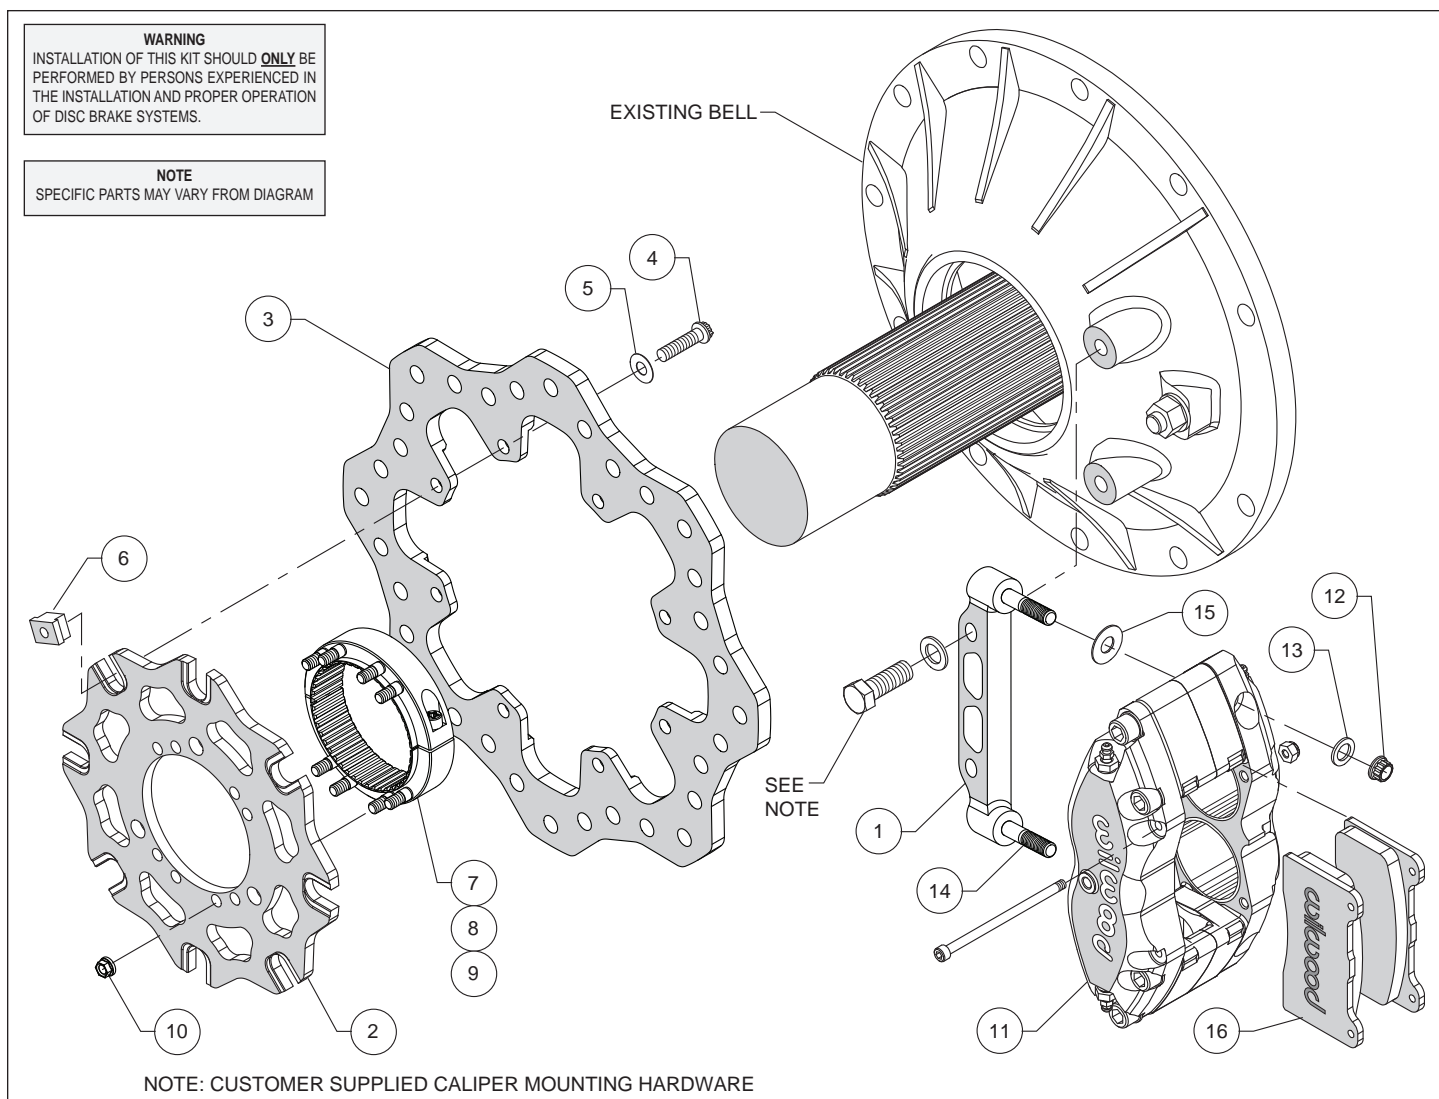

Figure 1. Typical Installation Configuration
• Orient the bracket as shown in Figure 1 and install using customer supplied bolts and washers. Temporarily tighten the mounting bolts. **NOTE:** The bracket must fit squarely against the mount bosses on the bell. Inspect for interference from casting irregularities, machining ridges, burrs, etc. Remove the bracket mounting bolts one at a time, apply red *Loctite*® 271 to the threads, and torque to specification.
• With the T-notches of the rotor adapter (2) facing away from the rotor (3), attach adapter to rotor using bolts (4), washers (5), and t-nuts (6) as shown in Figure 1. Apply red *Loctite*® 271 to the bolt threads before installing. Finger tighten. After all t-nuts have been installed, torque bolts in an alternating sequence to 220 **in-lbs**. Please refer to Wilwood's data sheet DS-669 (available at www.wilwood.com/Pdf/DataSheets/ds669.pdf) for complete t-nut bolt kit installation instructions.
• Orient the axle clamp assembly (7, 8 and 9, pre-assembled) as shown in Figure 1 and install onto the rotor adapter (2) using nuts (10). Tighten nuts part way while still allowing clamp-to-adapter movement. The nuts will be torqued later, after aligning the rotor. **NOTE:** The axle clamp should be positioned inside of the rotor as shown, not offset, or outside of the rotor adapter.
- Lubricate the caliper mounting studs (14) with lightweight oil. Initially place two .035" thick shims (15) on each stud as shown in Figure 1. Mount the caliper (11) onto the bracket (1) using lock nuts (12) and washers (13), Figure 1. Temporarily tighten the lock nuts and view the rotor through the top opening of the caliper. The rotor should be centered in the caliper. If not, slide the rotor/adaptor assembly on the axle until the rotor is centered in the caliper. Tighten the clamp bolts (9) first, locking the clamp to the axle. Torque nuts (10) to 140 in-lbs.
- Remove the caliper center bridge pad retainer bolt, nut, and tube from the caliper. Insert the brake pads (16) into the caliper, with the friction material facing the rotor. Check that the top of the brake pad is flush with the outside diameter of the rotor. If not, adjust by adding or subtracting shims (15) between the caliper and the bracket. After the caliper pad height is set, torque the caliper lock nuts (12) to 30 ft-lb. Secure the brake pads in place with the center bridge pad retainer tube, bolt, and locknut. The locknut should be snug without play in the bolt or tube. Be cautious not to over tighten.